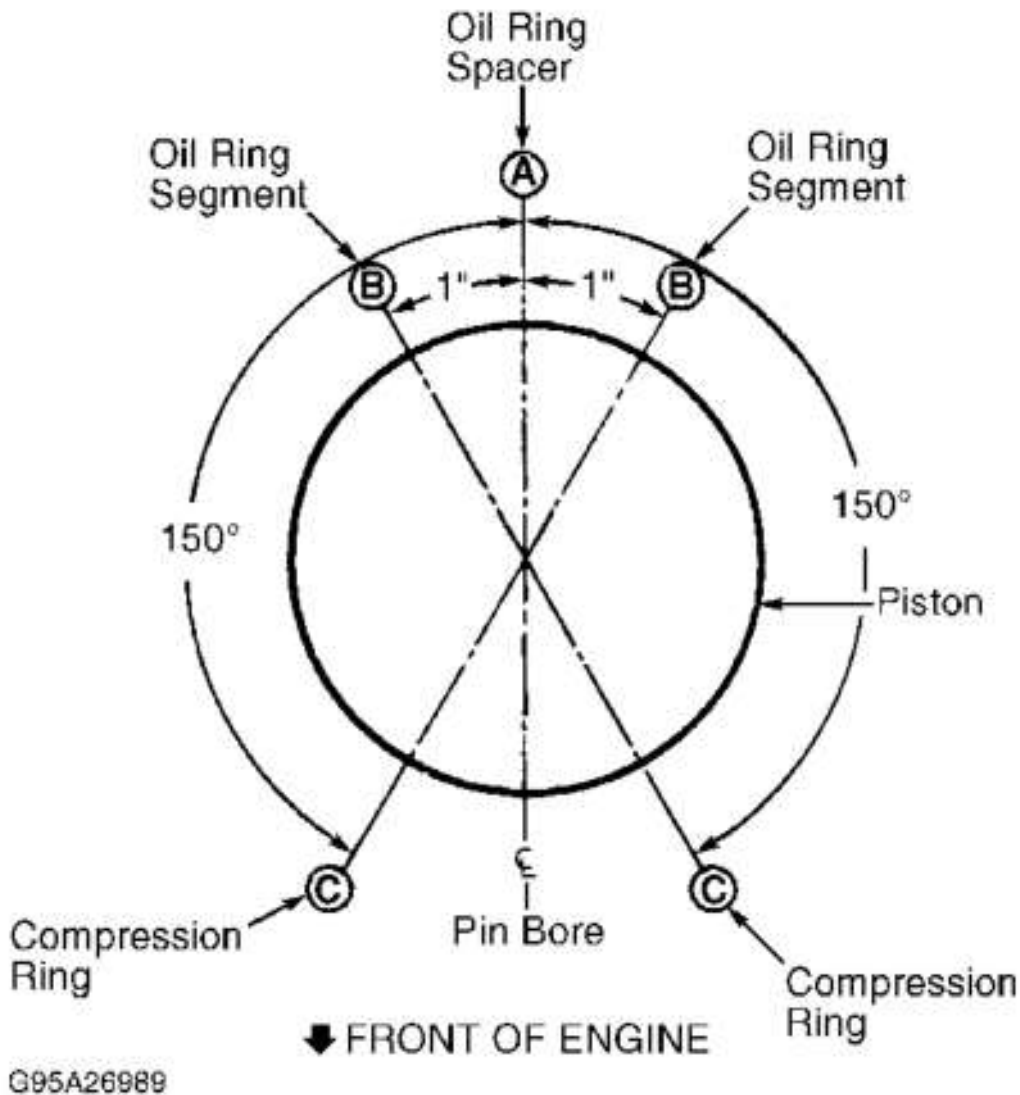

Fig. 7: Positioning Piston Ring End Gaps
2. Check side clearance of rings after installing on piston. Ensure clearance is within specification around entire circumference. Replace piston and/or rings if clearance is not within specification. See **PISTONS PINS & RINGS** table. Ensure rings are properly spaced on piston before installing pistons into cylinder. See **Fig. 7**.